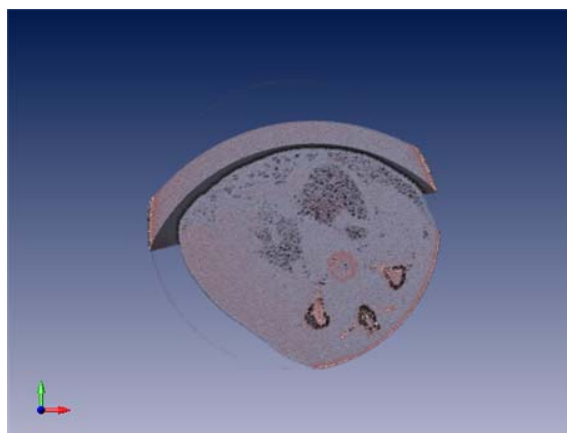

Figure 34. Airway Surfaces Colormap
- 2 Select the desired colormap. Figure 34 and Figure 35 show examples of different colormaps.